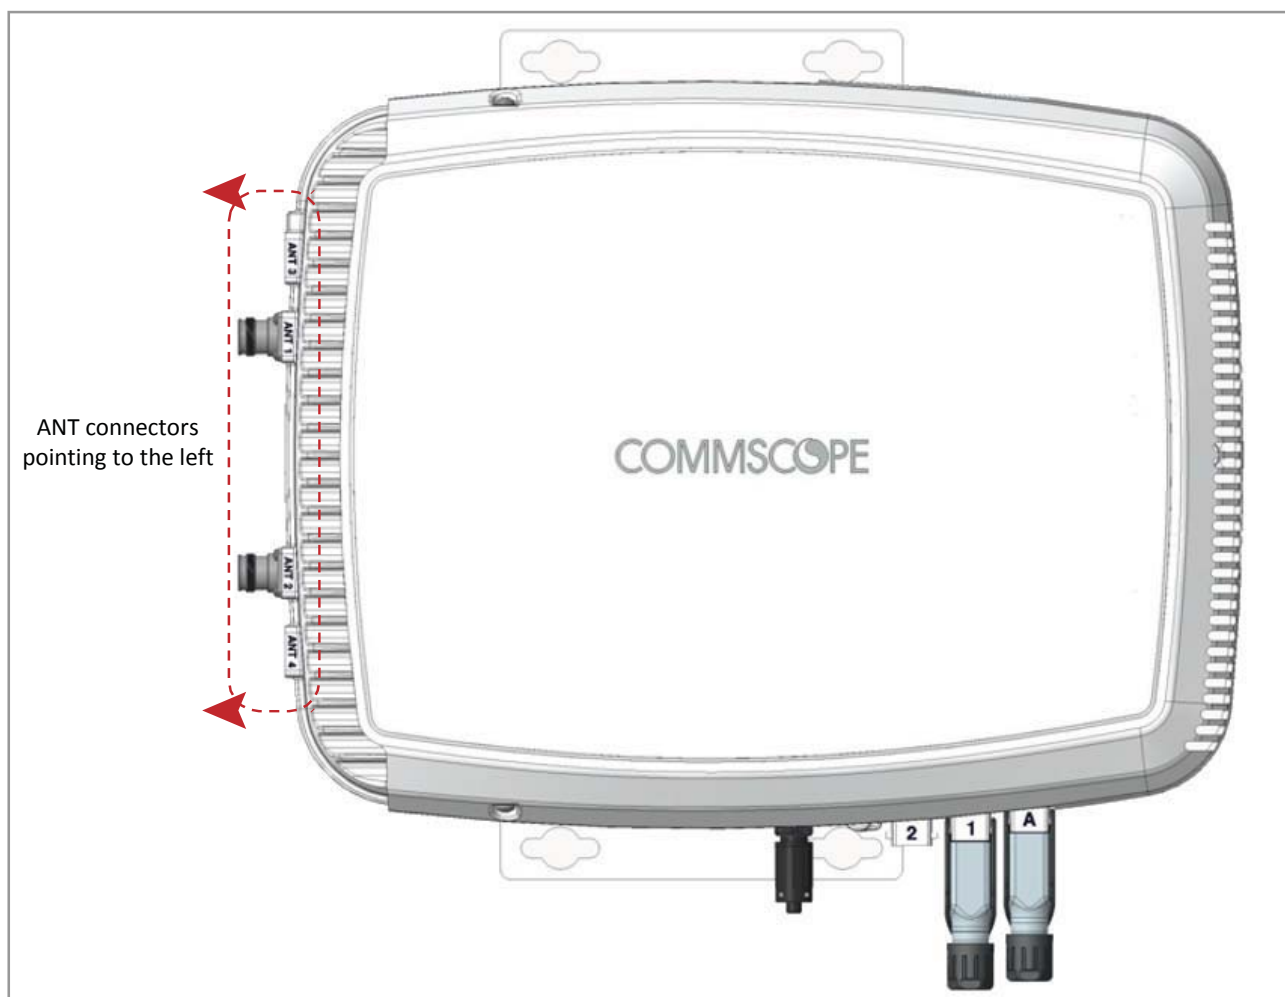

Figure 8. Mounting Orientation for a CAP L with the Optional Fan Kit (Flat Mounting Bracket Shown)
- **Wall Mount Orientation for a CAP L with a Fan Kit**—To allow for optimal access to the CAP L cables, it is recommended that a CAP L with the Fan Kit option be mounted with the ANT ports are pointing to the left; see Figure 8 on page 23.